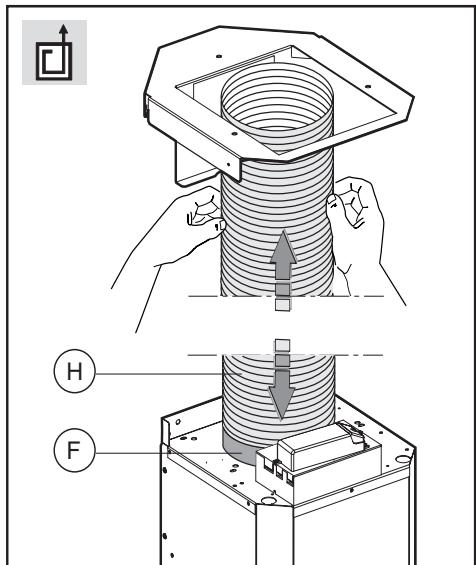

Fig.6
- Extractor hood: fix flexible hose **H** (not supplied) to the air exhaust hole made previously (fig. 6).
- Fix the flexible hose **H** (not supplied) over the connector flange **F** (fig. 6 - 7). Place the decorative duct over the bodywork.